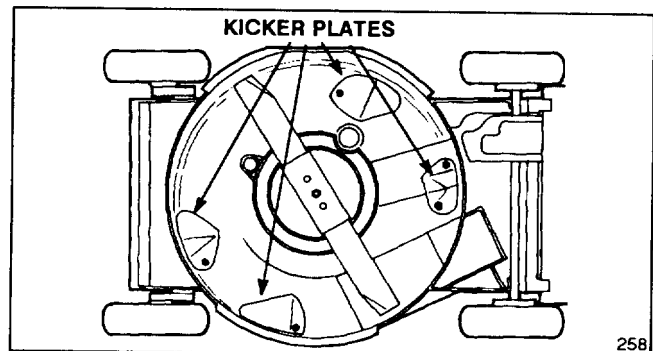

Figure 24
2. Tip mower on its right side (Fig. 24). Avoid rotating blade because starting problems may result.